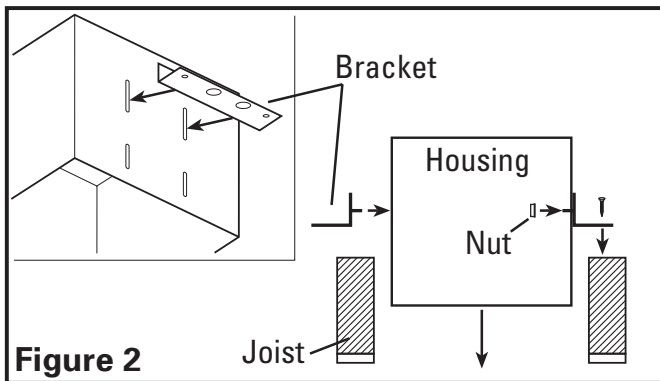

Figure 2
- 1a. **Installation on 2x4 Joists on 16" Centers:** Install the mounting brackets through the second set of slots on the fan housing and secure in place with the four included #10-32 nuts as shown. Center the fan housing between the joists and secure the mounting brackets with screws or nails (not included) to the joist. Adjust the height of the housing so that it is flush with the finished ceiling by loosening the mounting bracket nuts and sliding the housing up or down on the bracket. Full tighten all four nuts to secure the housing in place (**Figure 2**).